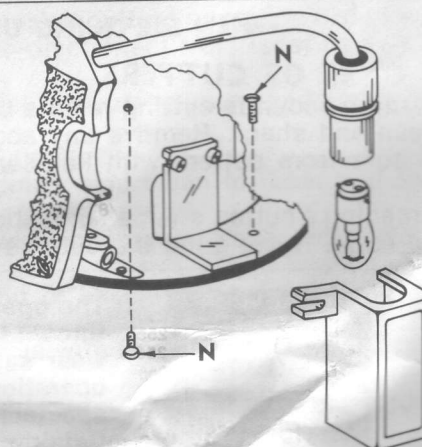

Fig. 6
1. To replace bulb, remove screws (N) and remove work light from router. See Fig. 6.